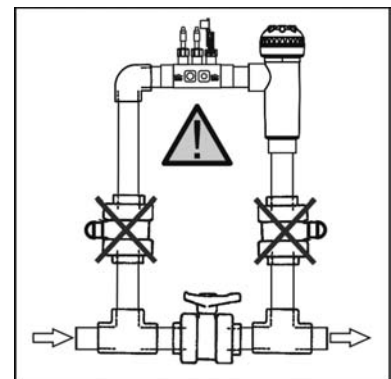

Fig. 4
1. Glue the sensor holder to a section of the pipe at the entrance to the electrolysis cell. It should always be installed in a horizontal position relative to the ground (see Fig. 4), so that the threaded inlets (1/2" - 3/8") are always accessible for the later installation of the dosage pump injector and the ground connection (optional).